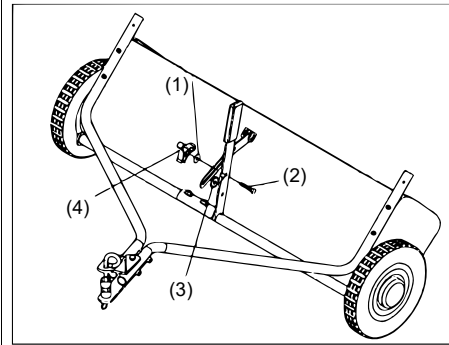

Figure 8
10. **fig. 8:** Position the height adjustment handle side to side so that the external teeth washer can fit between the handle and the height adjustment strap. Tighten the nuts securing the height adjustment handle.